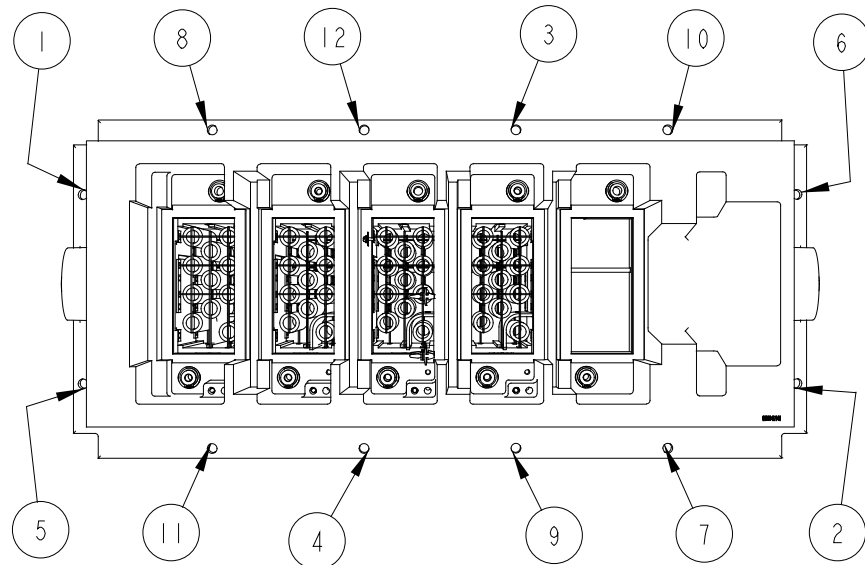

Figure 6.25 – Typical Torque sequence
6. When replacing the PowerCage, it is important to place the bolts on the outer flange in loosely. Torque bolts alternately on one flange and then the opposite flange to ensure even tightening of the module. A suggested sequence for torquing PowerCage bolts is shown in Figure 6.25.